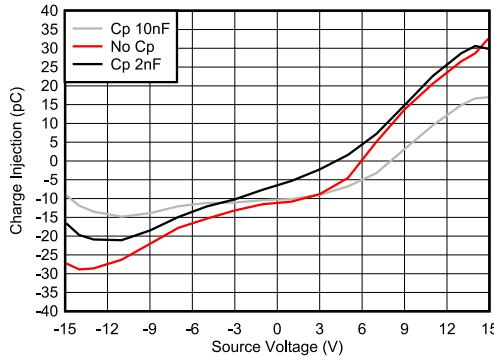

Figure 8-2. Charge Injection Compensation
The TMUX620x contain specialized architecture to reduce charge injection on the Drain (D). To further reduce charge injection in a sensitive application, a compensation capacitor (C_p) can be added on the Source (Sx). This will ensure that excess charge from the switch transition will be pushed into the compensation capacitor on the Source (Sx) instead of the Drain (D). As a general rule of thumb, C_p should be 20x larger than the equivalent load capacitance on the Drain (D). Figure 8-2 shows charge injection variation with different compensation capacitors on the Source side. This plot was captured on the TMUX6219 as part of the TMUX62xx family with a 100pF load capacitance.